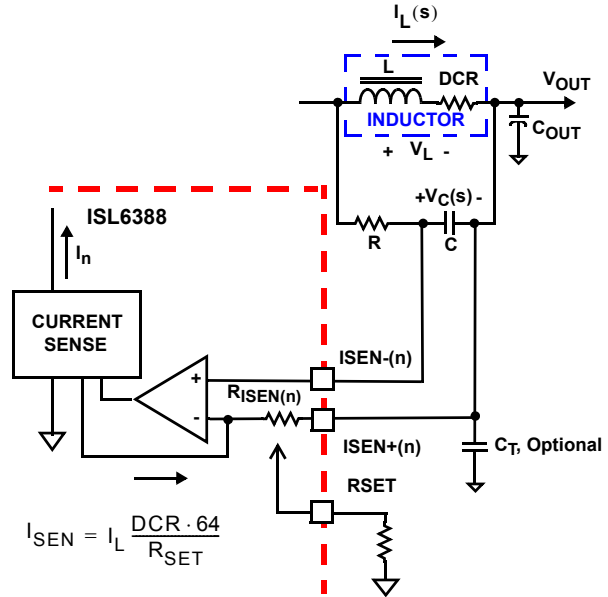

FIGURE 4. DCR SENSING CONFIGURATION
The internal circuitry, shown in Figures 4 and 5, represents one channel of the VR output, respectively. The ISEN± circuitry is repeated for each channel, but may not be active depending on the status of the PWM[6:2] pins, as described in "PWM and PSI# Operation" on page 17. The input bias current of the current sensing amplifier is typically 25nA; less than 7kΩ input impedance is preferred to minimized the offset error, i.e., a larger C value as needed.
An inductor's winding is characteristic of a distributed resistance, as measured by the Direct Current Resistance (DCR) parameter. Consider the inductor DCR as a separate lumped quantity, as shown in Figure 4. The channel-current I_L , flowing through the inductor, will also pass through the DCR. Equation 4 shows the s-domain equivalent voltage across the inductor V_L .
A simple R-C network across the inductor extracts the DCR voltage, as shown in Figure 4.
The current sense circuitry operates in a very similar manner for negative current feedback, where inductor current is flowing from the output of the regulator to the PHASE node, opposite of flow pictured in Figures 4 and 5. However, the range of proper operation with negative current sensing has a limitation. The worst-case peak-to-peak inductor ripple current should be kept less than 80% of the OCP trip point (~80μA). Care should be taken to avoid operation with negative current feedback exceeding this threshold, as this may lead to momentary loss of current balance between phases and disruption of normal circuit operation. Note that the negative current can especially affect coupled inductor designs, where the effective inductance is the leakage between the two channels, much lower than the specified mutual inductance (LM) and self inductance (L). To limit the impact, a higher R_{SET} value (1.5x to 2x) is often used to reduce the effective negative current seen by the controller in coupled inductor designs. Refer to Intersil's application note, AN1268 for detailed coupled inductor discussion and ripple current calculation.